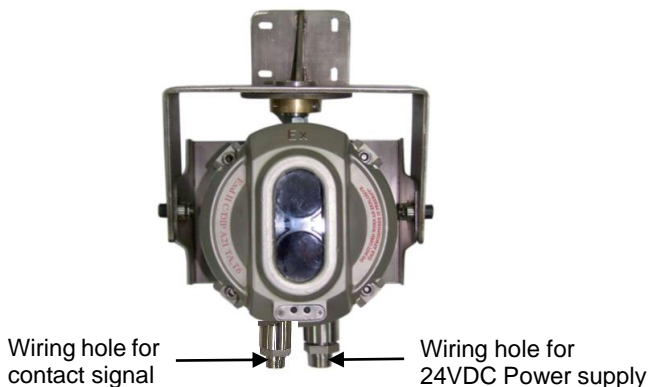

Fig. 11
If the detector does not connected with GST fire alarm control panel, D1 and D2 are to be connected with 24VDC power cable polarity-insensitively, K11 and K12 are used as volt-free fire alarm output contact, and K21 and K22 volt-free fault output contact, as in Fig. 11.
- (2) If the detector does not connected with GST fire alarm control panel, the two wiring holes are both needed, as shown in Fig. 11.